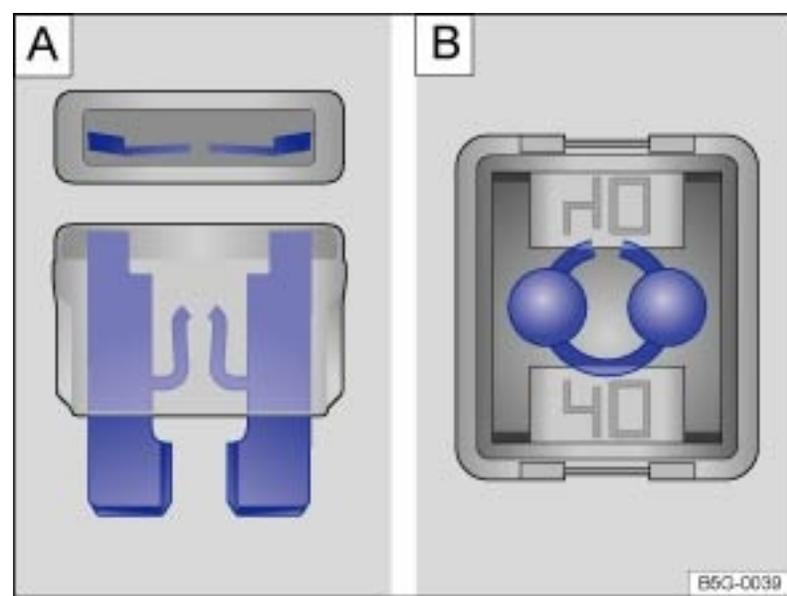

Fig. 222 Blown fuse: : Blade fuse. : JCASE® fuse.
- ▶ A blown blade fuse (ATO®, MINI®) has metal strips that have burned through, which you can see through the transparent housing from above and from the side → Fig. 222 .
- ▶ A blown cartridge fuse (JCASE®) has metal strips that have burned through, which you can see through the transparent housing from above → Fig. 222 .